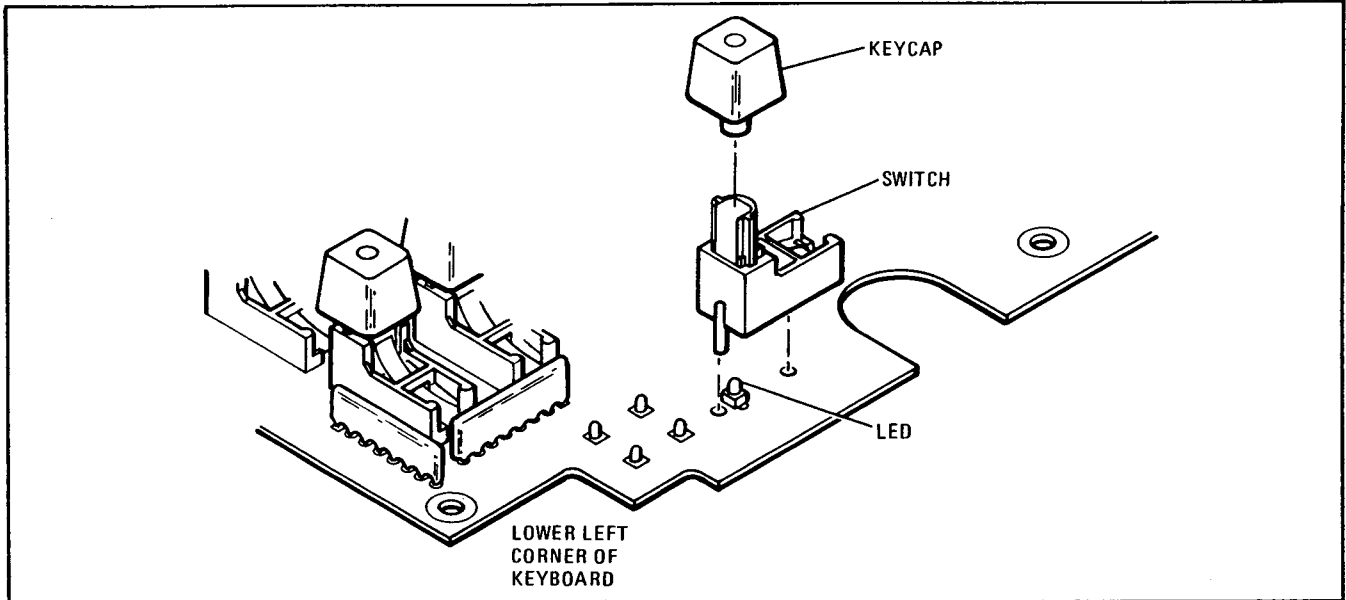

Figure 1. CALIBRATION Switch Location
15. Locate the position on the Keyboard and Display Assembly where the CALIBRATION switch will be installed (lower left corner of A1). Identify the holes for the switch posts and the switch pads (see Figure 1).
17. Place the switch (HP 5060-9436) in the proper position on the circuit board (see Figure 1). You should see the LED inside the white stem of the switch if the switch is properly placed.